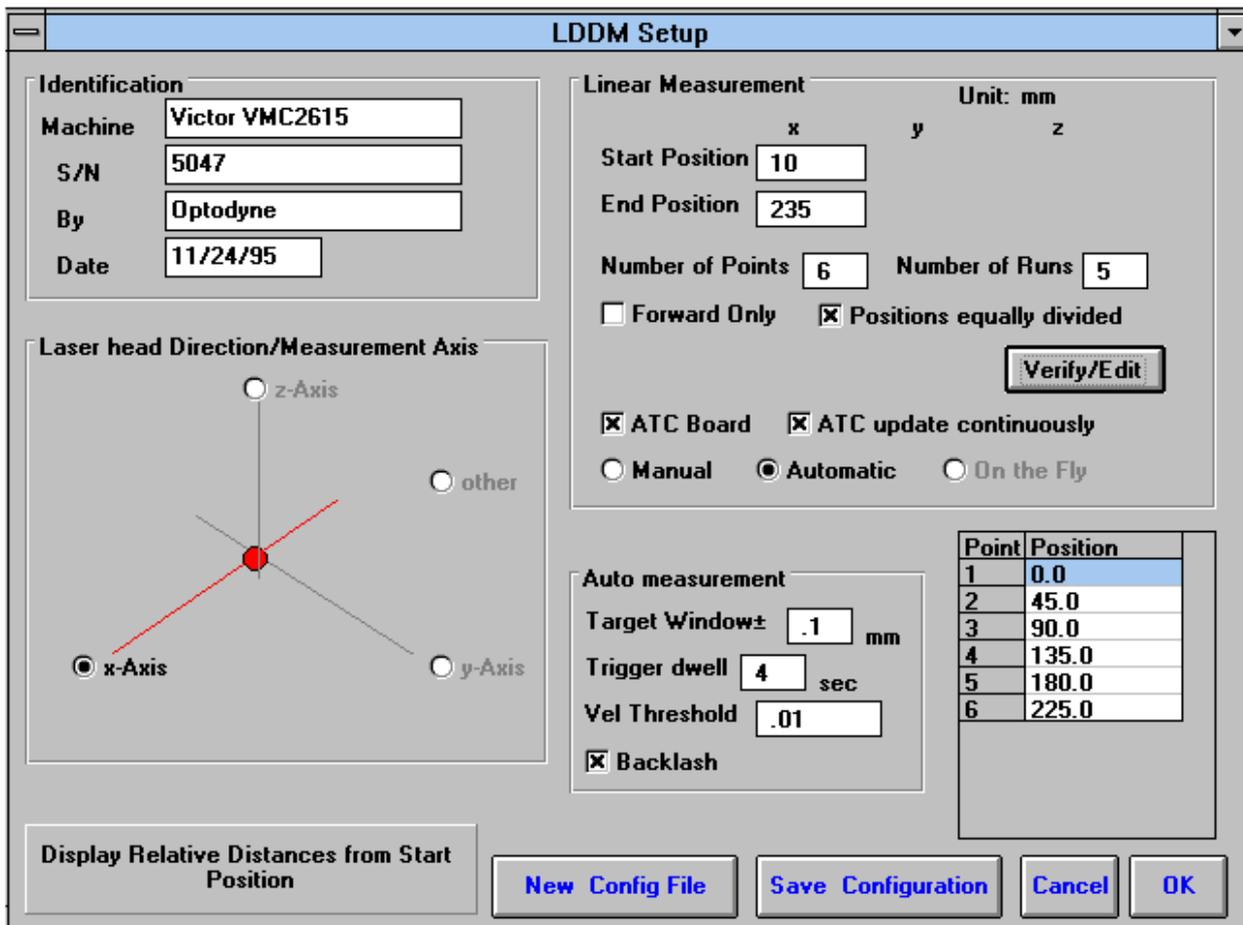

FIG.7-12 LINEAR MEASUREMENT SETUP SCREEN
B. Linear Measurement Setup Screen (Fig. 7-12)
Linear Measurement Setup Screen (See Fig. 7-12):